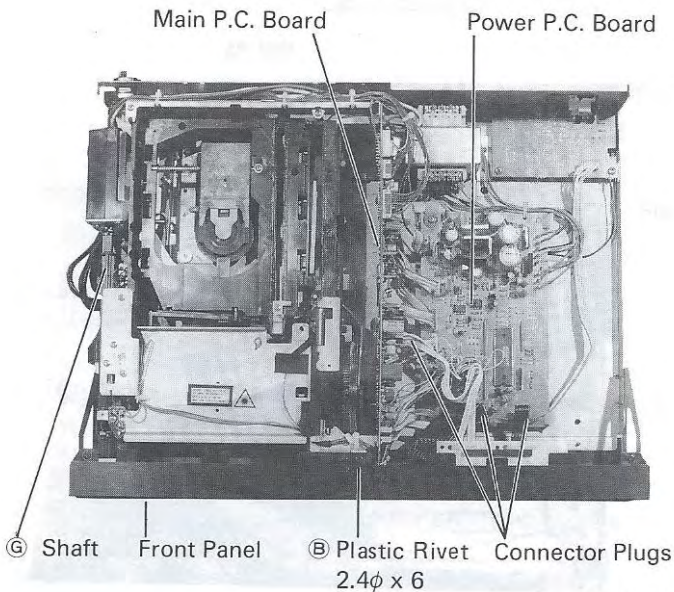

Figure 2
3. Remove one plastic rivet (B) from panel upper side and five screws (C) and (D) from panel lower side. (Figures 2 and 3)
5. Remove power switch shaft (G). (Figure 2)
3. Remove front panel. (Figures 2 to 5)
2. Remove front panel. (Figures 2 to 5)